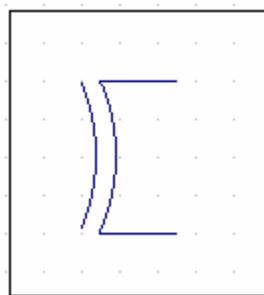

Fig. 3.9 Placing arc using Repeat Graphic Item
5. Place another line, few grids (8) lower but parallel to the first line.
9. Ensure that the arc is of required shape and size. Repeat the same arc using the tool  **Repeat Graphic Item** and place it as shown in Fig. 3-9.